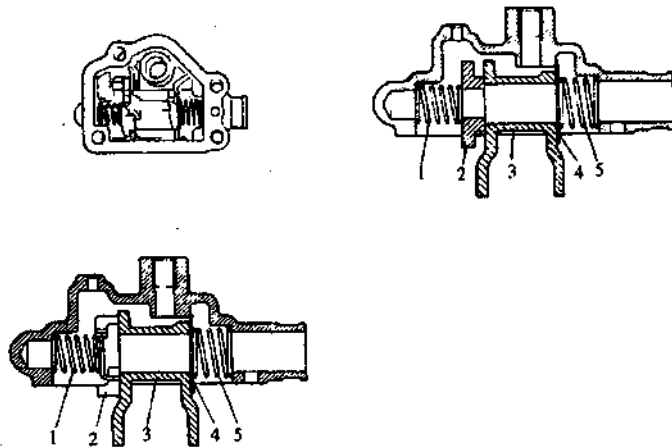

Fig.3.2-2
- ② Install the second spring, fork arm, washer and the first arm to the cover body. The tightening torque of reverse gear limit screw is 18-28N • m (Please refer to Fig.3.2-2).